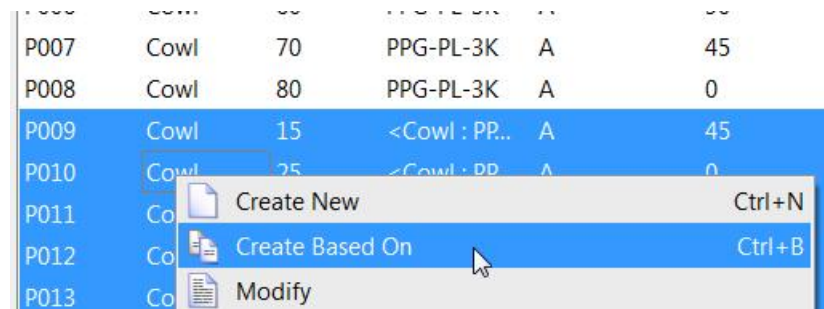

Figure 3–36
4. New plies P015 to P020 are created and displayed as shown in Figure 3–37.